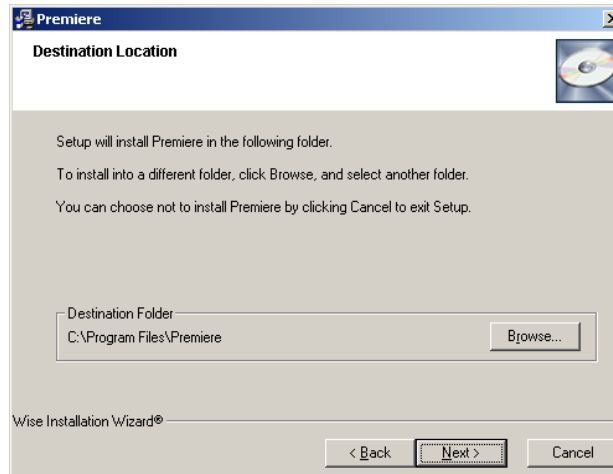

FIGURE 38: Destination Location Screen
5. The next screen that appears (see Figure 38) contains information about where the program files will be placed. You can select another directory or allow the program to create the indicated directory. Click on the **Next** function button to continue the installation.